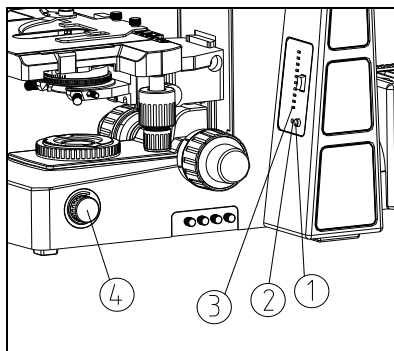

Fig.11
(1) Put through the power and turn on the main power switch to “—” (see Fig. 11).